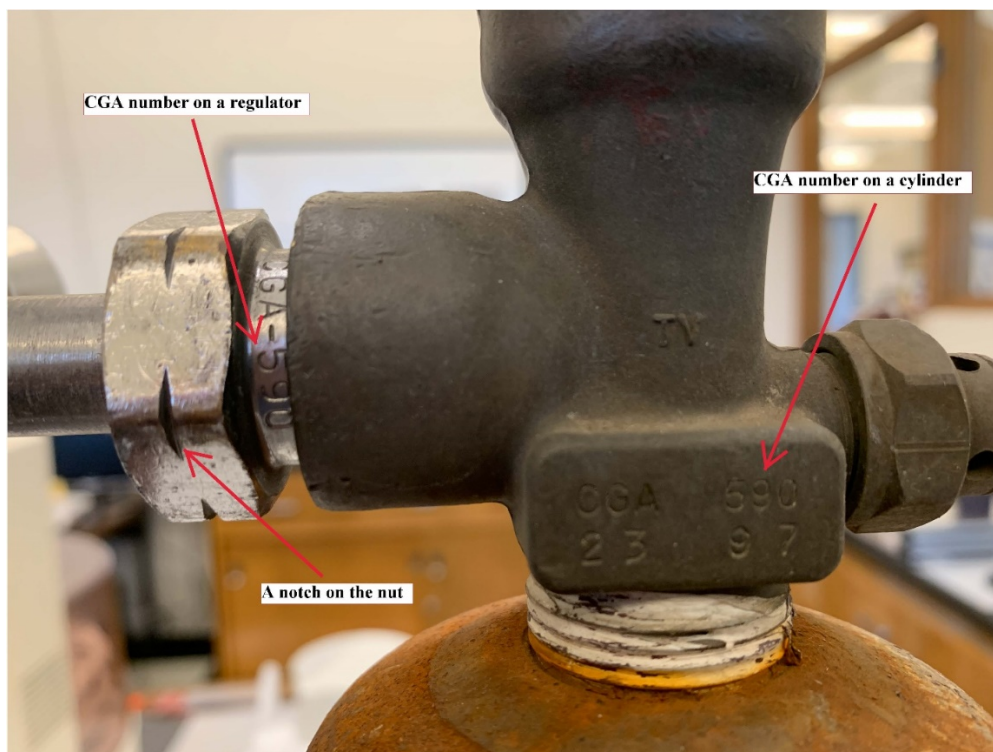

Figure 1: CGA number on a regulator and a gas cylinder
- Check the CGA numbers on the gas regulator and cylinder valve are compatible (Figure 1)
- Attach the regulator to the cylinder and tighten the connection using a wrench. If there is a notch on the nut (Figure 1) that it means an opposite thread direction to the normal direction, so that incorrect gases can't be connected. Do not overtighten. Be certain the connection of a cylinder and a regulator without being too loose and too tight. Don't use grease/oil, Teflon tape / pipe dope as an aid to connect a regulator and a cylinder.